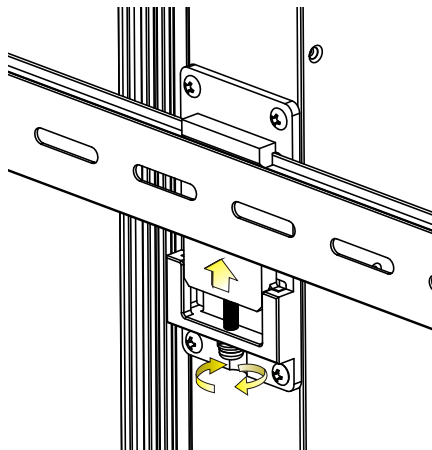

Figure 3-19: Secure the Mounting Bracket
- Step 4:** Use a screwdriver to rotate the screw of the mounting bracket until the small metal block can firmly secure the system to the DIN rail. (**Figure 3-19**).